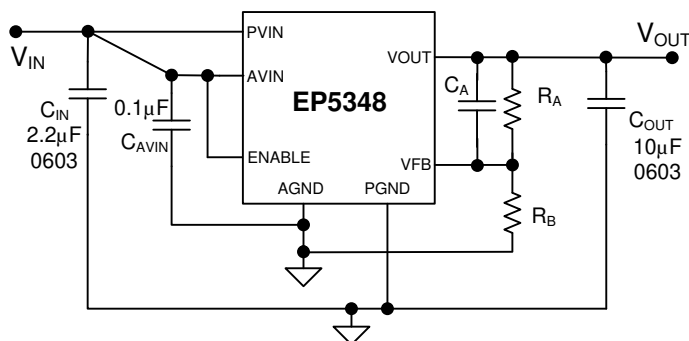

Figure 3: Typical Application Circuit
Referring to Figure 3, use 200 kΩ, 1% or better for the upper resistor ( $R_A$ ). The value of the bottom resistor ( $R_B$ ) in kΩ is given as:
**Recommendation 4:** As Figure 5 shows,  $R_A$ ,  $R_B$ , and  $C_A$  have been placed on the back side to minimize the footprint. These components also need to be close to the VFB pin (see Figures 3, 4 and 5). The VFB pin is a high-impedance, sensitive node. Keep any trace connected to this node as short and thin as possible. Whenever possible, connect  $R_B$  directly to the AGND pin instead of going through the GND plane. In the layout shown above,  $R_B$  goes to the via next to AGND pin using a dedicated trace on layer 3 not shown here. Please see the Gerber files at [www.altera.com/enpirion](http://www.altera.com/enpirion).